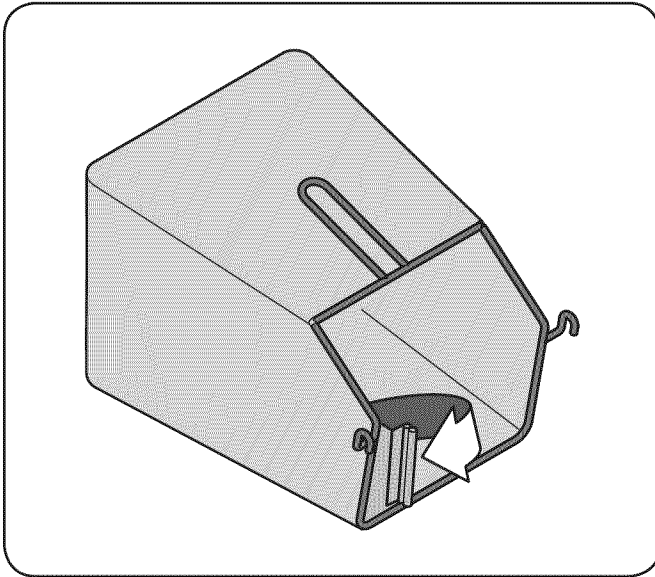

Figure 3-6
1. To assemble the grass catcher, secure the plastic channels of grass bag over frame rods. See Fig. 3-6.